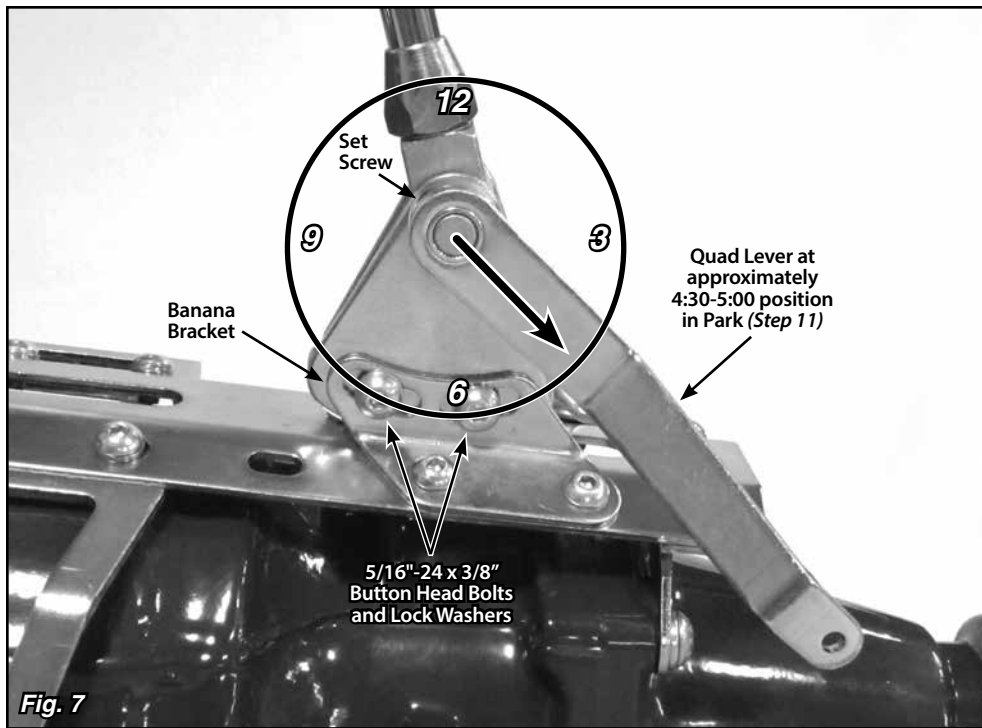

Fig. 7
Step 11: Make sure the two 5/16"-24 x 3/8" button head bolts and lock washers that attach the driver side banana bracket to the shifter assembly (in the curved, slotted holes) are tight using a 3/16" Allen wrench. Before tightening the shifter assembly down to the main plate, move the shifter lever through all the gear positions. Make sure that the shifter lever and knob do not come in contact with the dash or the seat. The shifter assembly can be tilted forward or backward if needed by loosening the 5/16"-24 x 3/8" button head bolts and lock washers in the curved, slotted holes in the driver side banana bracket. **Fig. 7**
Step 12: Put the shifter lever into the Park position and check the position of the quad lever. It will need to be pointing to about the 4:30 - 5:00 position. If it is not, loosen the set screw in the top of the quad lever with a 1/8" Allen wrench and slide the quad lever off of the shaft. Reposition it on the shaft at approximately the 4:30 - 5:00 position, and retighten the set screw. **Fig. 7**